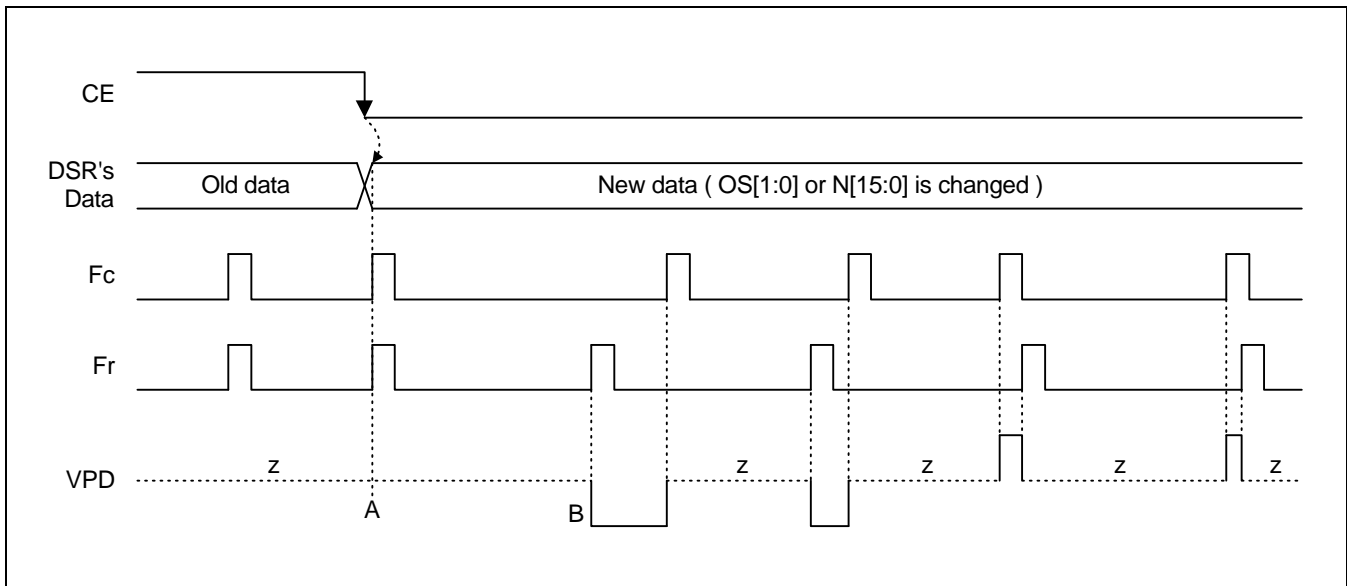

Figure 12. PFD and PD Output Relationship
- ◆ reset Fc and Fr counter(Figure. 12 A) and change PFD in state 2
- ◆ After new data is latched, accurate ψ Error can be reflected on the first phase error(Figure. 12 B)